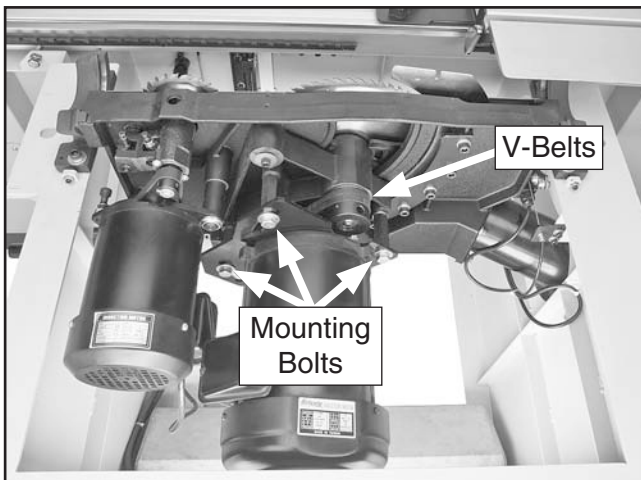

Figure 118. Locations of main motor mounting bolts (cast iron table removed).
2. Loosen the three mounting hex bolts shown in **Figure 118** to allow the motor to rotate.